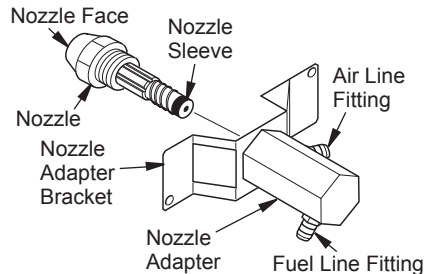

Figure 28 - Nozzle and Nozzle Adapter (200 Model)
6. Carefully remove nozzle from nozzle adapter using 5/8" socket wrench (see Figure 28).